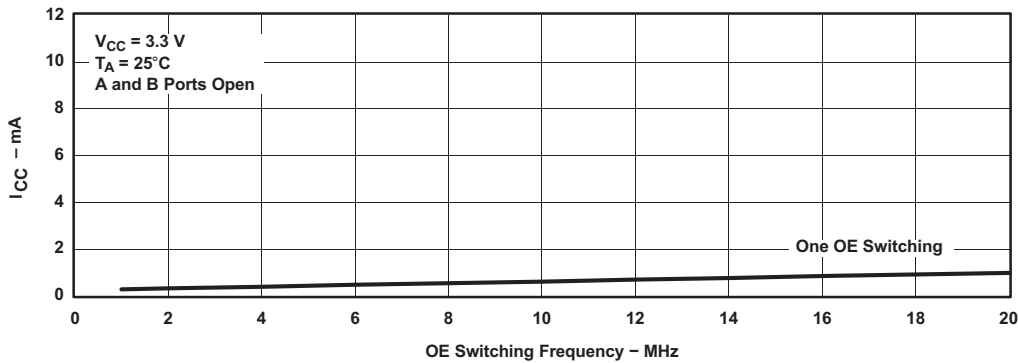

Figure 5. Typical I_{CC} vs OE Switching Frequency
(1) V_{IN} and I_{IN} refer to control inputs. V_I , V_O , I_I , and I_O refer to data pins.
(2) All typical values are at $V_{CC} = 3.3\text{ V}$ (unless otherwise noted), $T_A = 25^\circ\text{C}$.
(3) For I/O ports, the parameter I_{OZ} includes the input leakage current.
(4) This is the increase in supply current for each input that is at the specified TTL voltage level, rather than V_{CC} or GND.
(5) This parameter specifies the dynamic power-supply current associated with the operating frequency of a single control input (see Figure 5).